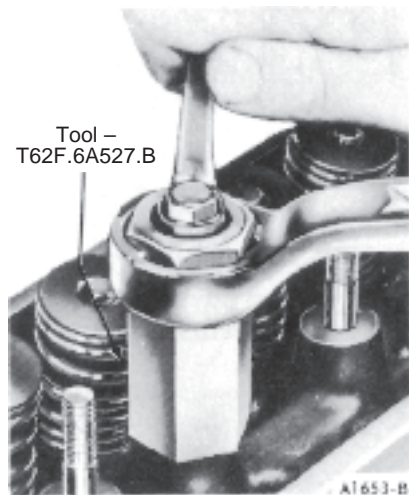

Fig. 20 Removing Rocker Arm Stud
1. Position the sleeve of the rocker arm stud remover (Tool T62F-6A527-B) over the stud with the bearing end down. Thread the puller into the sleeve and over the stud until it is fully bottomed. Hold the sleeve with a wrench, then rotate the puller clockwise to remove the stud (Fig. 20).